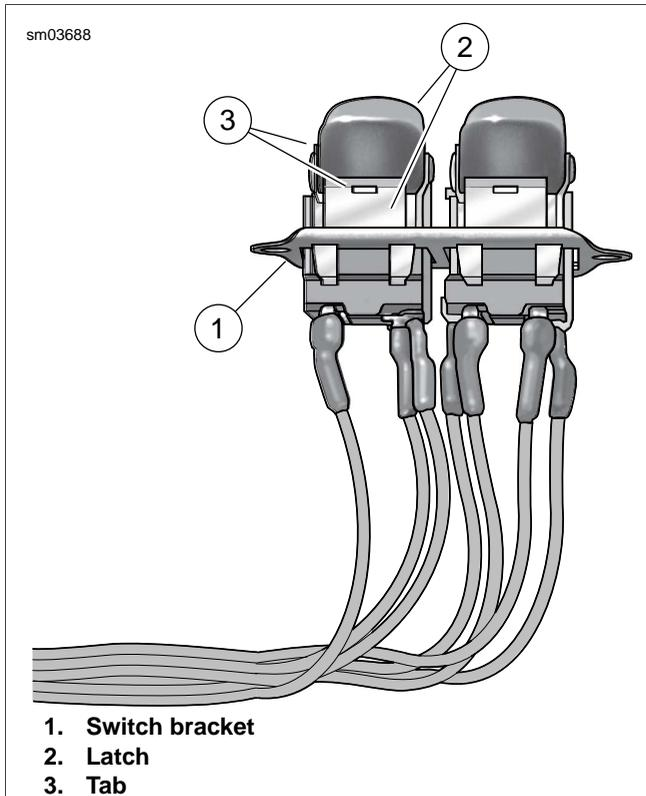

Figure 8-70. Bend Latches Outward to Release Tabs
7. Gently pry two latches on bracket outward to release tabs on switch. Remove switch from bracket. See Figure 8-70.